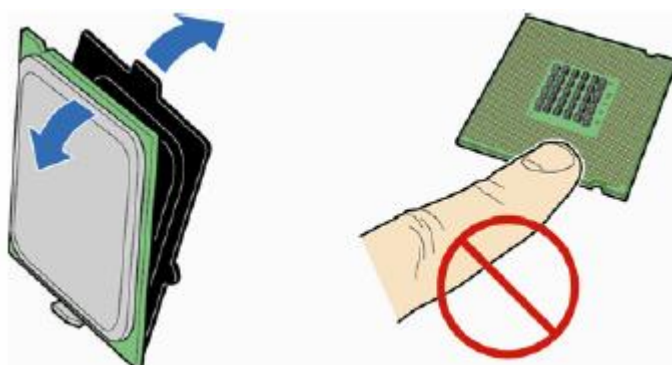

Figure 14: Remove the processor from the protective cover
3. Remove the processor from its protective cover. Hold the processor only at the edges, being careful not to touch the bottom of the processor (see Figure 14).